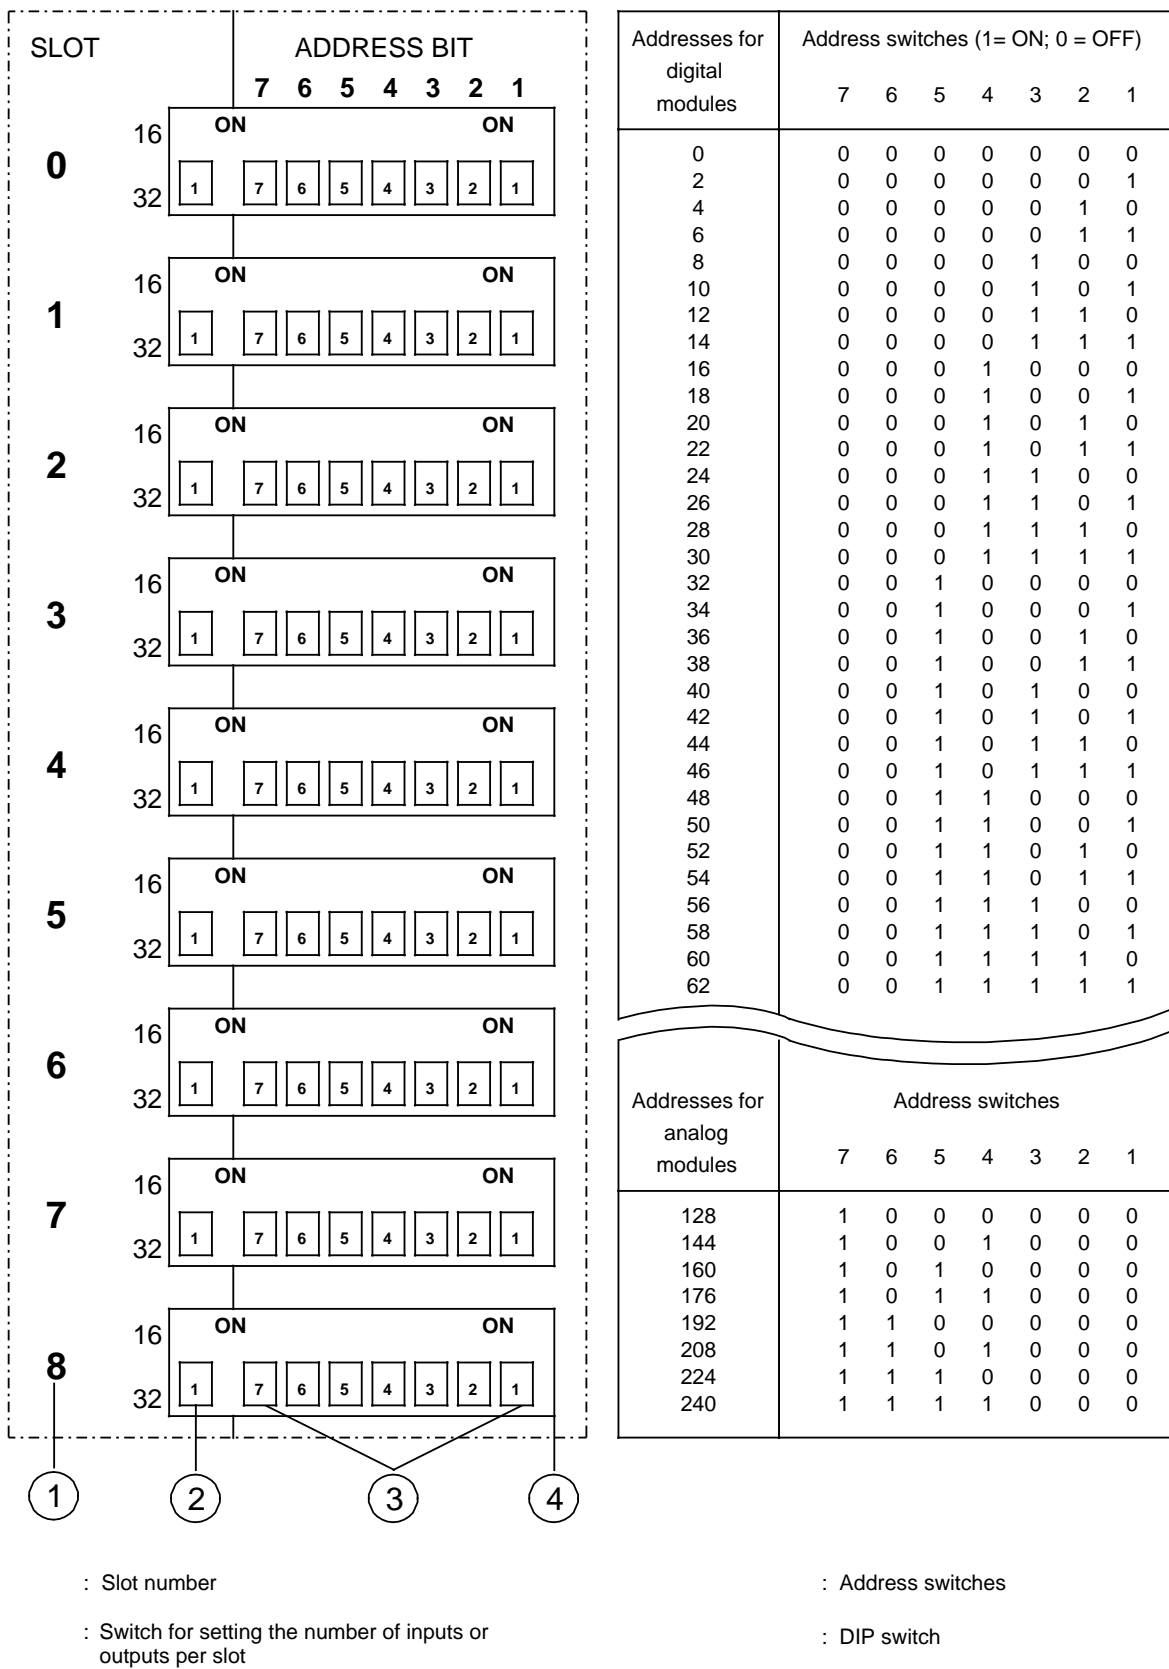

Figure 5-2. Setting Addresses on the Addressing Panel of the IM 306 Interface Module
Variable addressing is possible since an IM 306 interface module is plugged into each central controller and each expansion unit. For addressing purposes, it does not matter whether the module in question is plugged into a central controller or an expansion unit. Under a hinged cover on the right side of the interface module is an addressing panel. It has a DIP switch for each slot. Use the DIP switch to set the least significant byte number for a particular slot (Figure 5-2).
- Set the address switches on the DIP switch for slot number 2 as shown in Figure 5-2.